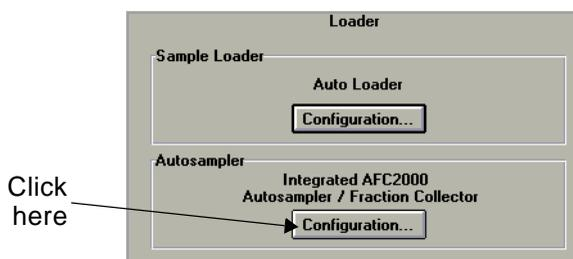

Figure 3-10 Configuring as an Integrated Autosampler
2. In the Autosampler/Fraction Collector section of the Configuration dialog box (Figure 3-10), click the **Configuration** button under Integrated AFC 2000.